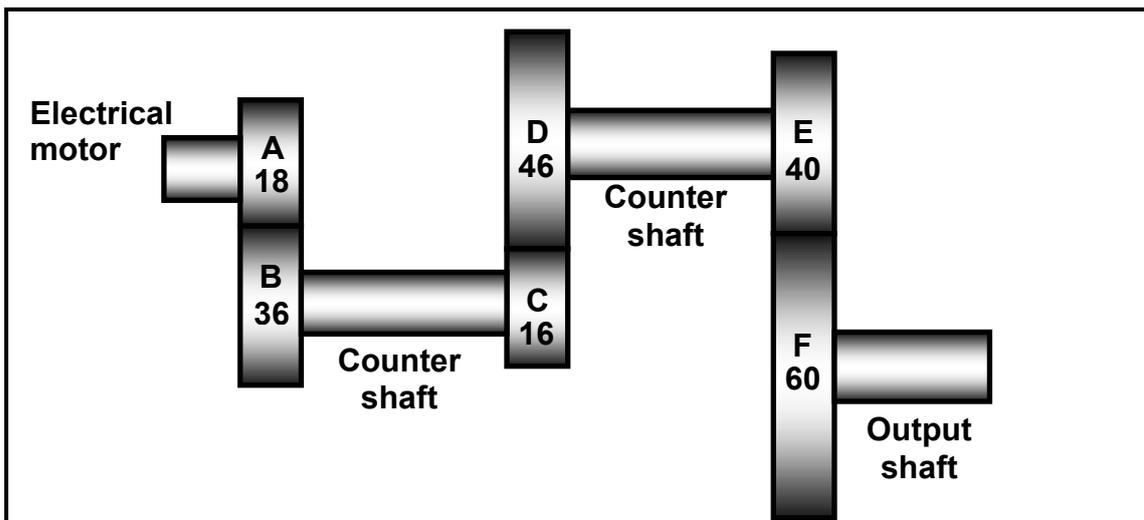

FIGURE 9.2
9.2 FIGURE 9.2 shows a gear-drive system. Driver gear **A** on the shaft of the electric motor has 18 teeth that mesh with gear **B** with 36 teeth on a counter shaft. On the counter shaft is a second driver gear, **C**, with 16 teeth that mesh with gear **D** with 46 teeth on a second counter shaft. The second counter shaft has a third driver gear, **E**, with 40 teeth, which drives gear **F** with 60 teeth on the output shaft.